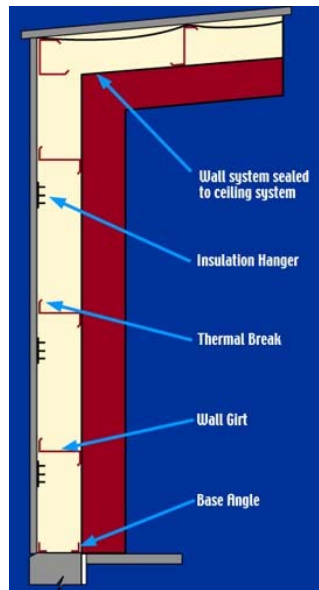

Figure 3: Cross section of typical metal wall
- Fill the purlin and girt cavities completely with uncompressed insulation. An additional thermal barrier of insulation over the purlins and/or the placement of thermal blocks greatly decreases the thermal bridging. See Figure 3.